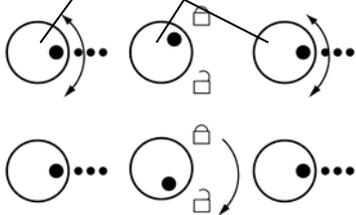

Figure 10: Separator system adjustment I
- Check that both outer adjustment knobs (F2) of the separator system are centered ( ••• -Position ). Unlock the separator system by turning the separation lock knob (F3) clockwise (see Figure 10).